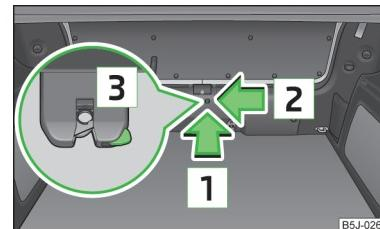

Fig. 36
- ▶ Insert a screwdriver or similar tool into the opening in the trim in the direction of the arrow 1 » Fig. 36 as far as the stop.